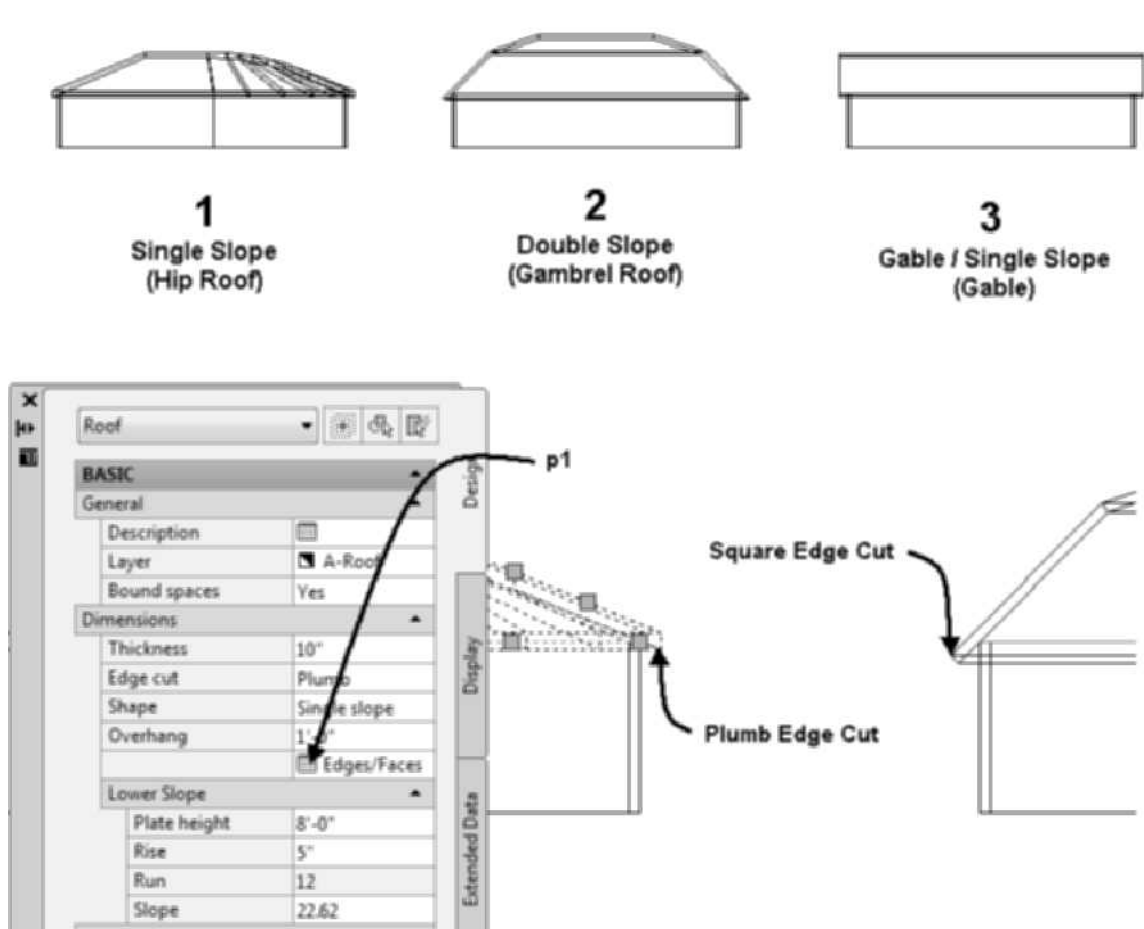
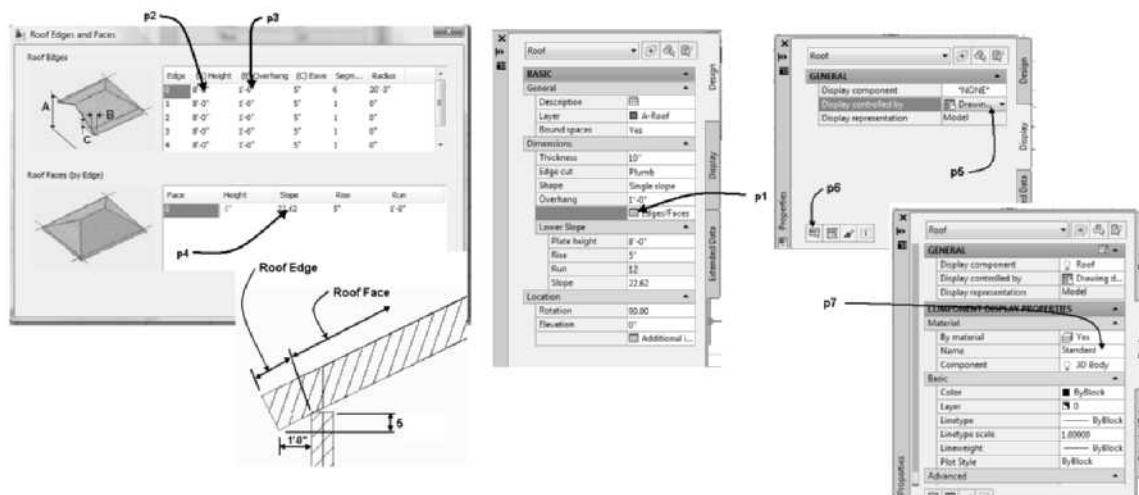

FIGURE 7.7 Setting the Edge cut of a roof
FIGURE 7.8 Edit of Roof Edges and Faces dialog box
3. Double-click to select the roof of building 1 as shown in Figure 7.7. The Shape of this roof is defined as **Single Slope** in the Properties palette. Each edge of the roof slopes to create a Hip Roof. Press **Escape** to end selection.
4. Select the roof of building 2 as shown in Figure 7.7. The Shape of this roof is defined as **Double Slope** in Shape field of the Properties palette. Each edge of the roof
5. Select the roof of building 3 as shown in Figure 7.7; this roof was created by using the **Gable** and **Single Slope** shapes. Press Escape to end selection.
6. Select the roof for buildings 1 and 2 as shown in Figure 7.7. Choose **Zoom Object** from the Zoom flyout of the Navigation bar.
7. Select the roof for building 1 shown at left. The Edge cut of this roof is **Plumb** which provides a vertical fascia as shown in Figure 7.7. Press Escape to end selection.
9. Choose Top from the View Cube. Select the roof for building 1 which includes a curved edge. Choose the **Edges/Faces** button at **p1** as shown in Figure 7.8 to open the Roof Edges and Faces dialog box. The Roof Edges and Faces dialog box shown in Figure 7.8 includes a list of roof planes that were created. Edge number 0 is the first edge created when the roof was placed. An edge is specified by selecting the first two points to create the first roof segment. The remaining edges are listed in ascending order in the same sequence as they were created. The properties of each edge are described in columns of the list box.
10. You may click the field at **p2** of Figure 7.8 to adjust the (A) Height which is the plate height or the distance from the XY plane that the roof plane begins for each edge. The roof is generated at the specified slope from this point.
11. Click in the field at **p3** in Figure 7.8 to adjust the (B) Overhang shown as the horizontal distance the edge projects from the wall line. The roof extends at the specified slope angle to create the overhang equal to the horizontal overhang distance. The overhang creates the soffit component of the roof.
12. The (C) Eave, Segment, and Radius are shown and reflect the slope and location of the roof. The slope of each Face associated with each edge is modified by selecting an Edge in the Roof Edges pane at top and then editing the field at **p4** from the Roof Faces (by Edge) pane. You may hold down the Ctrl key to select more than one edge from the Roof Edges pane for edit.
14. Choose the **Display** tab of the Properties palette. Choose the flyout at **p5** to verify Display controlled by is set to Drawing default setting. Choose the Select Component button shown at **p6** in Figure 7.8. Choose the roof of building 1 as shown in Figure 7.7.
15. The settings for the Roof display component are shown at right in Figure 7.8.
16. You may modify the material specified for the selected component if you click at **p7** as shown in Figure 7.8 to select a different material definition of the drawing.